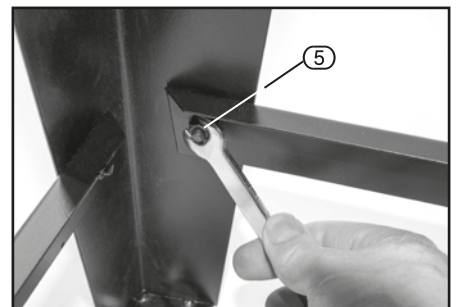

FIG.2
Using fastenings ④, assemble the support bracket ②&③ to the legs ① as shown in FIG.2.